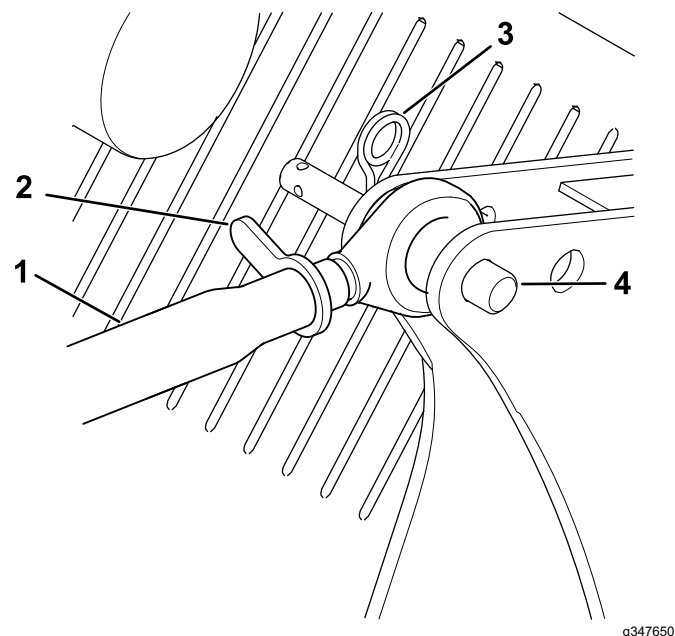

Figure 9
1. Connect the upper link arm to the bracket and secure it with the link pin and the hairpin cotter (Figure 9).